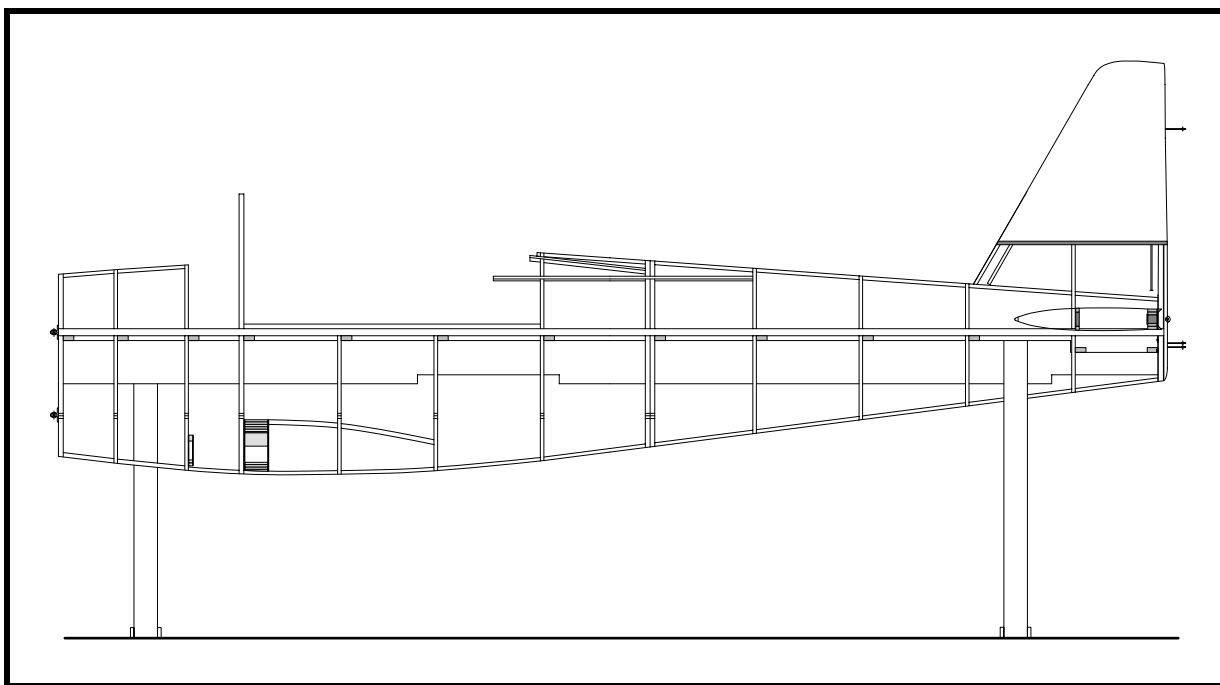

Figure 22
- ❑ Fit the left cockpit coaming strip in place. See Figure 22. This is the strip of spruce that is installed on the top of the side longerons and the fuselage frames. This strip extends from the aft face of frame No. 4 to the forward face of frame No. 7. The outside of the coaming should be the same as the outside of the fuselage frames. The inside of the coaming should be the same as the inside of the fuselage frames except for frame No. 7 where it is 10mm outboard of the inside of frame No. 7. This is for the inside fuselage skin (see Drawing No. 315).